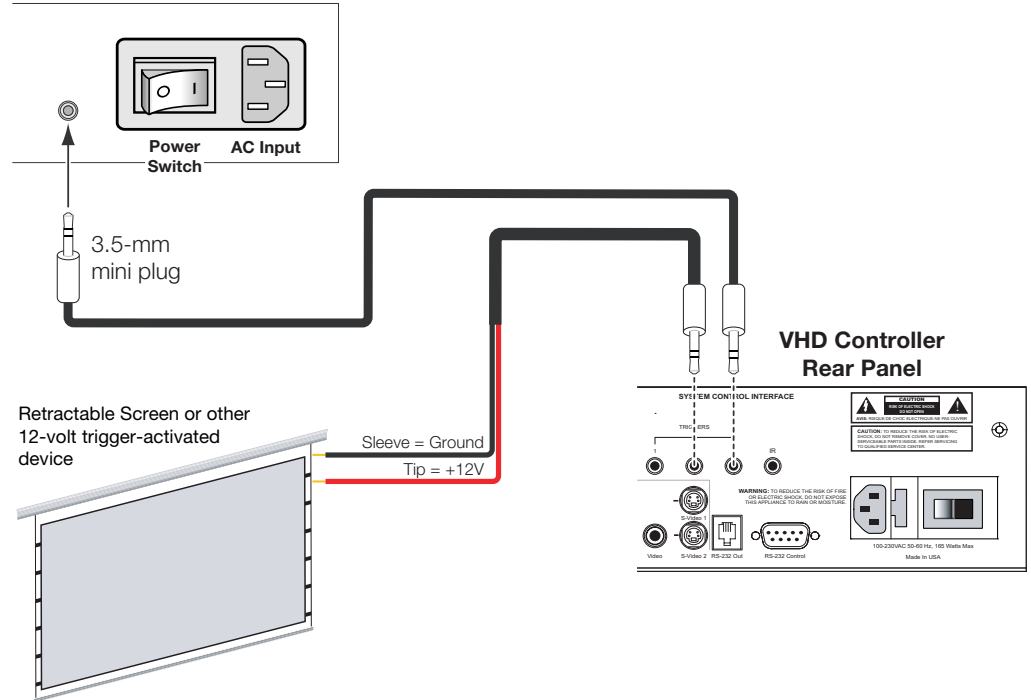

Figure 3-16. 12-volt Trigger Output Connections (from VHD Controller)
VHD Controller: If your Vision 85 is equipped with a CineWide with AutoScope system, connect the AutoScope lens motor to a 12-volt trigger output on the VHD Controller; see Figure 3-16.
- 3. If this is an AutoScope-equipped projector, turn on the main power switch at the rear of the AutoScope lens motor. The lens motor power switch is located next to the AC input (see Figure 3-16).